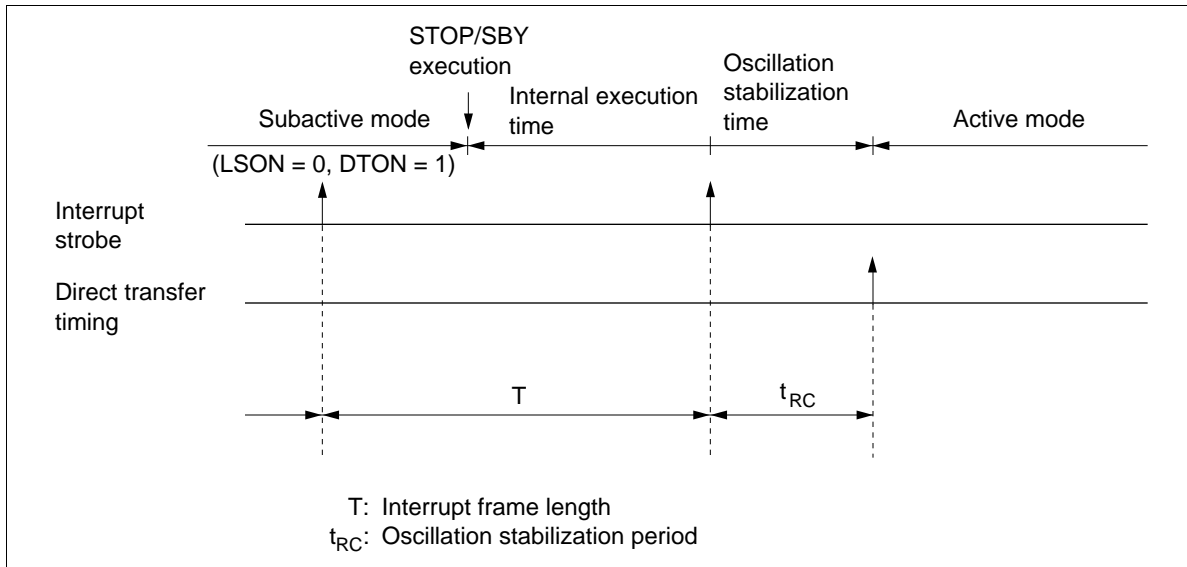

Figure 15 Direct Transfer Timing
- After the oscillation stabilization time (a fixed value), the MCU will move automatically from subactive to active mode (see figure 15).